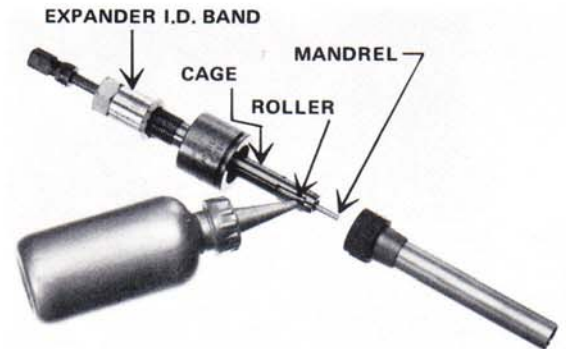

Figure 6
3. Select the expander appropriate to the tubing material and wall thickness. Lubricate the rollers and mandrel, and insert the expander cage into the fitting bore as shown in Figure 6. The mandrel should be in the full pull-back position to allow the rollers to enter the fitting. The expander identification band indicates the tubing for which the expander is set.